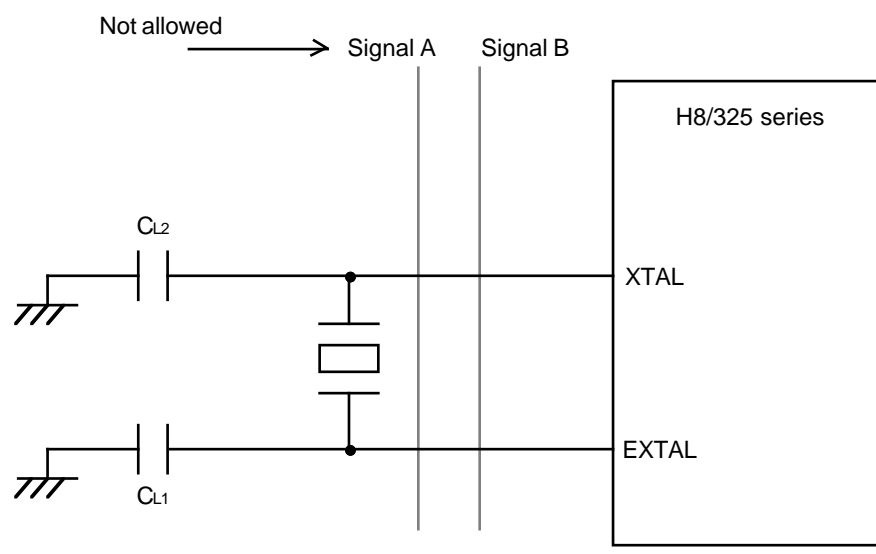

Figure 14-4. Notes on Board Design around External Crystal
③ **Note on Board Design:** When an external crystal is connected, other signal lines should be kept away from the crystal circuit to prevent induction from interfering with correct oscillation. See figure 14-4. The crystal and its load capacitors should be placed as close as possible to the XTAL and EXTAL pins.